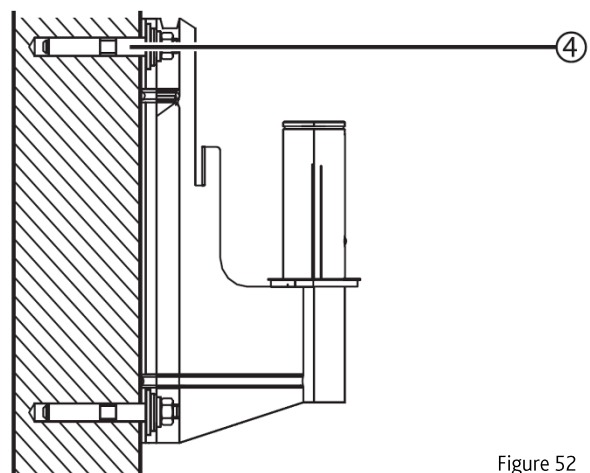

Figure 52
7.3.2 - Using stud bolts (see figure 52)